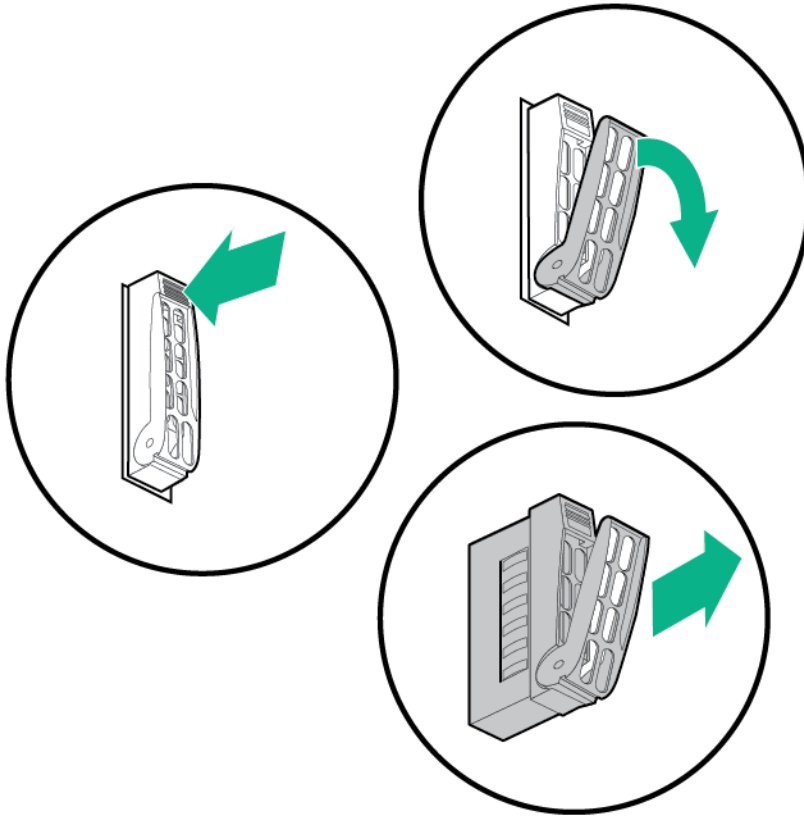

Figure 15: Hard drive remove/replace
4. Locate the drive you need to remove and push in its top release latch, see **Figure 15: Hard drive remove/replace** on page 44 for an example.